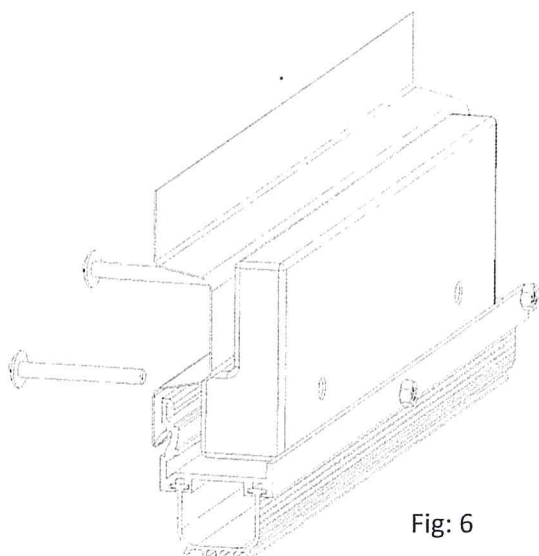

Fig: 6
- m) Locate the weight bar on the centre of the bottom rail and drill two locating holes through the holes on the weight bar into the bottom rail. Secure the weight bar with two bolts provided. (Fig 6)